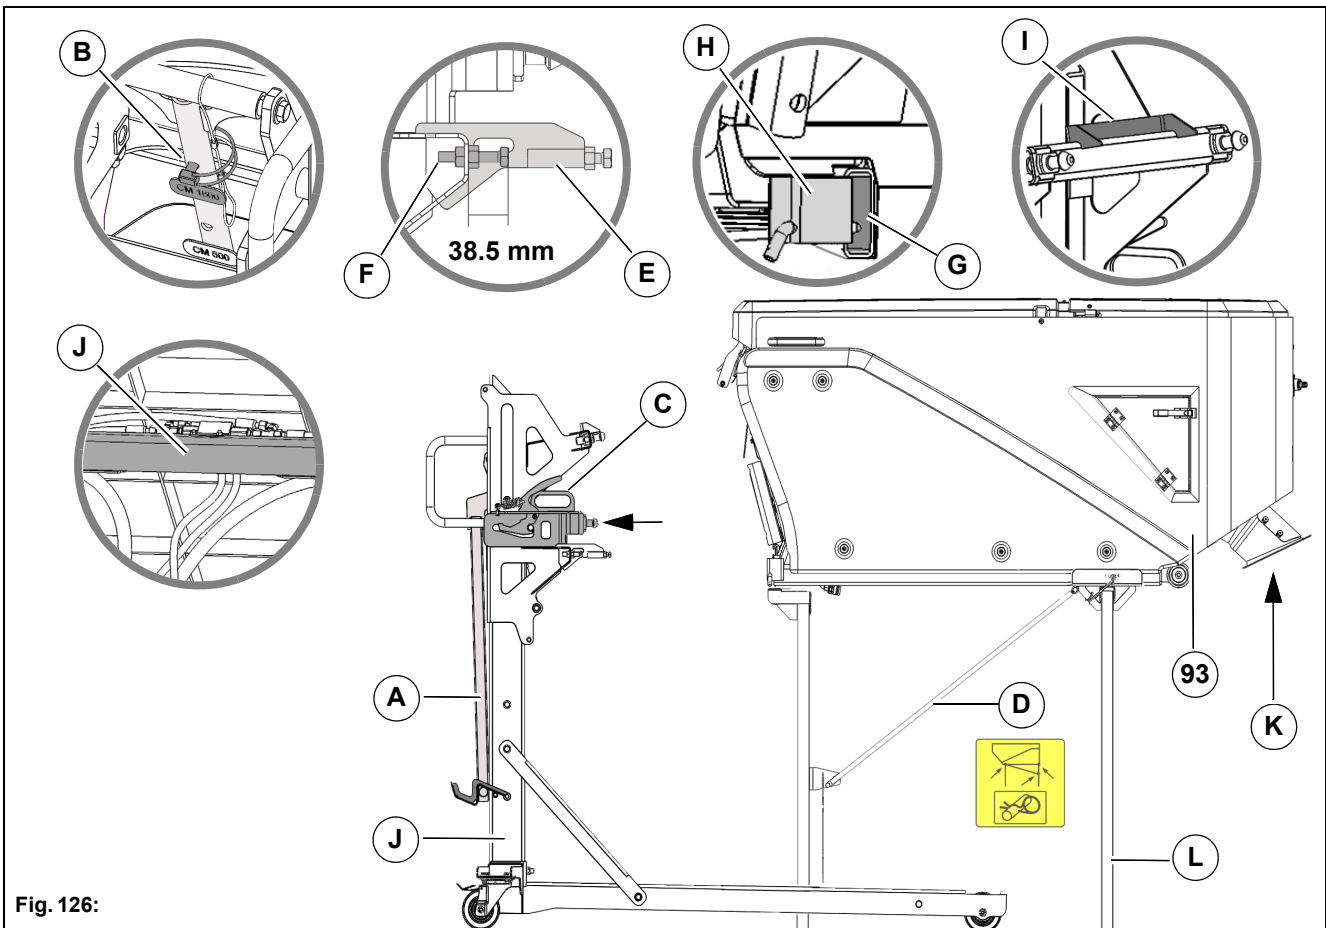

Fig. 126:
<p>Danger Risk of injury due to tilting over! Make sure that the cross strut Fig. 126-D (optional) has been inserted when transporting the dirt hopper on the supports Fig. 126-L. Secure the supports with bolts and splints.</p>
6. Push the trolley **Fig. 126-J** (optional) with the lower positioning aid **Fig. 126-E** into the spars **Fig. 126-G** and against the fixed bearings **Fig. 126-H** of the dirt hopper. The screw **Fig. 126-F** must be adjusted to 38.5 mm!
7. Carefully lower the lever **Fig. 126-A** of the trolley and make sure that the upper positioning aid **Fig. 126-I** sits behind the plate **Fig. 126-J** of the dirt hopper. Lock the lever.
8. Remove the supports **Fig. 126-L**. To do this, pull out the split pins and the bolts.
<p>Note During mounting protect the seal Fig. 126-K of the suction nozzle with a cover plate.</p>